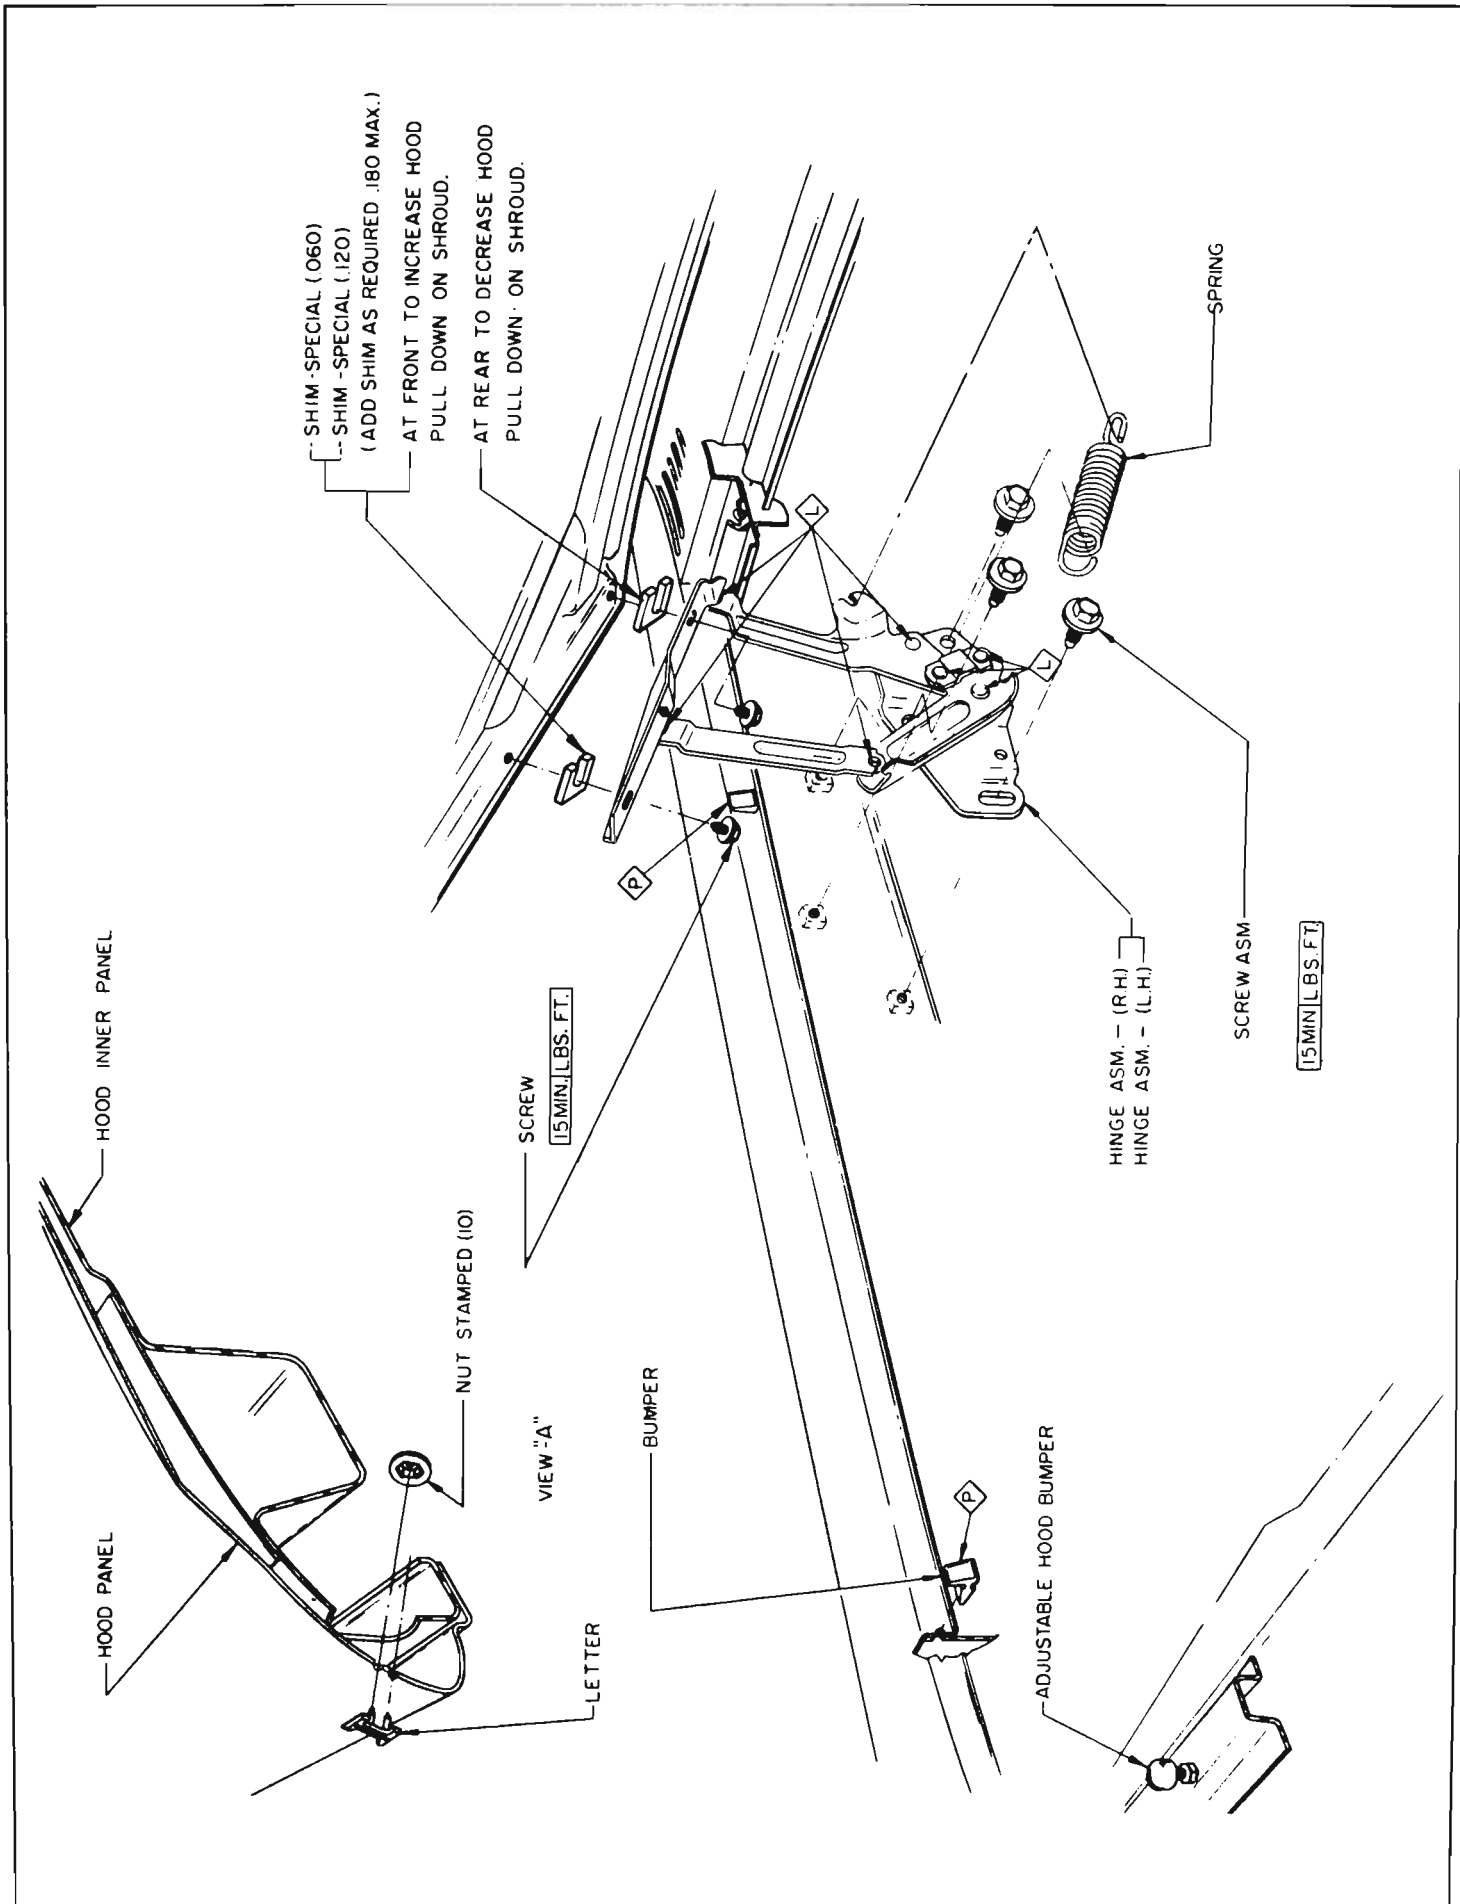

Figure 12-1—Hood Installation
3. Remove hinge to hood bolts shown in Figure 12-1. Then lift hood from car.
2. Front Height. This is determined by two adjustable bumpers. (See Figure 12-1.) However, the front of the hood may not contact these bumpers unless the hood latch is correctly adjusted as described in Step 4.
To prevent hood panel flutter, the rear end of the hood panel must have firm contact with the rubber bumpers and lacing attached to cowl ledge. The hood may be raised or lowered by adjustment at hinges. (See Figure 12-1).